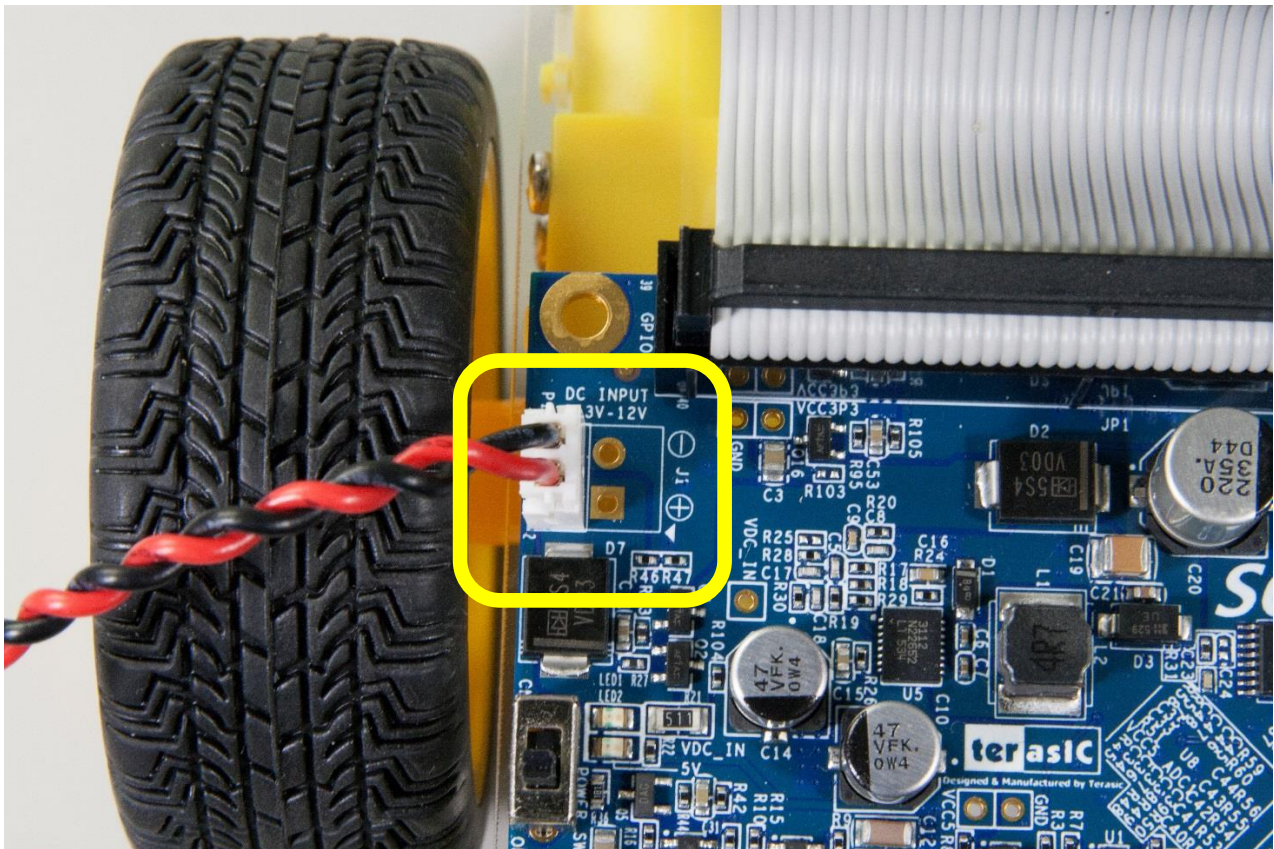

Figure 2-3 J1 position on SCD board
1. Unplug the J1 cable (battery cable) from the battery box to SCD; refer to **Figure 2-3**.